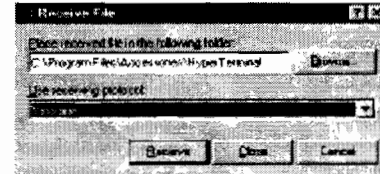

Figure 5 – Receive File Dialogue Box
- ii. On Computer 2: Select *Transfer* menu -> *Receive File*. Select a folder in which to place the file and select *Protocol: Ymodem* (see figure 5). Press *Receive*.